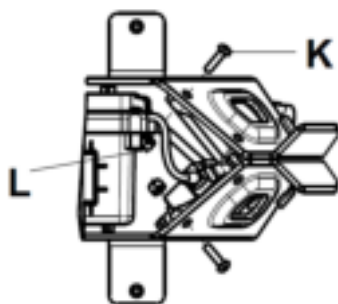

Figure 3
7. Using a T25 Torx driver and a 3/8" combination wrench, remove the button head cap screw (K) and Fiberlock nut (L) that secure the wireless module, if equipped, to the cot (Figure 3). Save the screw and nut.